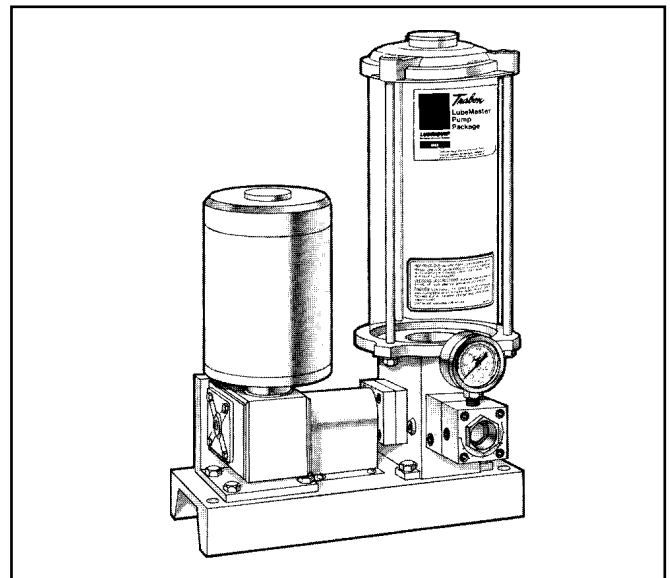

Figure 4-2. LUBEMASTER Pump with Gear Reducer, Motor and Floor-Mounting Base
4.1.1.1 LUBEMASTER Pumps furnished with a drive are normally provided with either a clutch drive (Figure 4-1) or with an electric motorized drive (Figure 4-2).